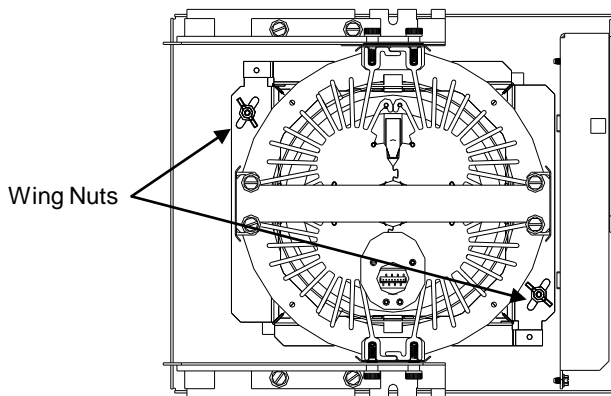

Figure 7
2. To adjust housing for trim alignment, reach through aperture and loosen two wing nuts. Adjust housing as required and retighten wing nuts. See Figure 7.